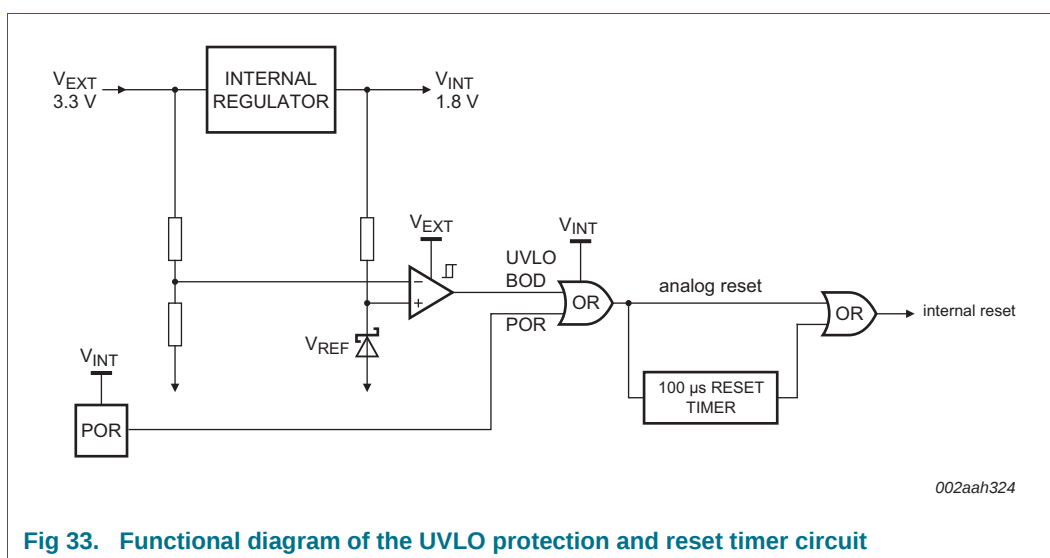

Fig 33. Functional diagram of the UVLO protection and reset timer circuit
- Section 10.1 abbreviated for clarity. - UVLO description including description of cold start-up behavior moved to the LPC11Axx user manual. - Table "Slew rate for the internal regulator power-up from ground" removed. This specification is included in the cold start-up description in the LPC11Axx user manual. - Details regarding boundary scan added to Section 7.24 "Emulation and debugging". - Figure 33 "Functional diagram of the UVLO protection and reset timer circuit" updated to include the reset timer circuit. - Section 12.8 "Guidelines for selecting a power supply filter for UVLO protection" added. - Section 7.23.2 updated to include internal reset timer. - Parameter t_{PD} corrected in Table 24. - Parameter $E_{V(O)}$ corrected in Table 26.